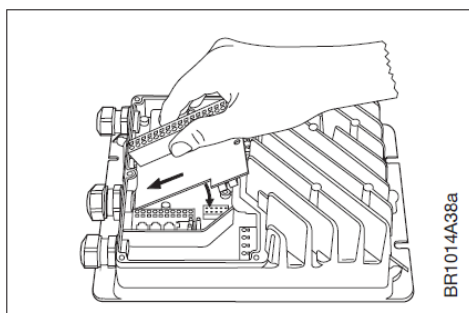

Fig. 9-1
- See figs 9-1, 9-3 and 9-4 for details of mechanical installation in NI-DV sizes 0.55 kW...3.0 kW. The 3-point holder is located on the bottom when looking at the mounting bay from the top (see fig. 9-1).